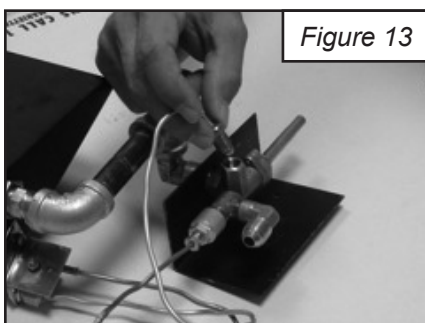

Figure 13
- L. Attach pilot gas supply line (Part # 6) to the bottom of the gas control valve. Care should be taken not to kink the tubing which would restrict gas flow to the Pilot Burner. (See Figure 13)